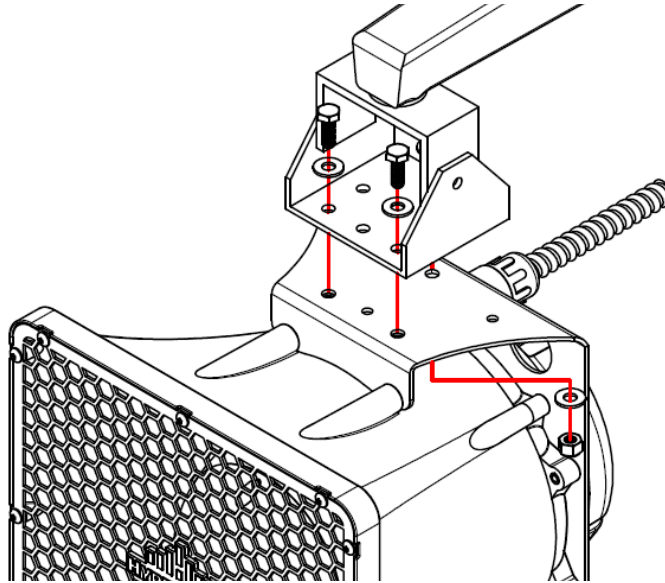

Figure 3: Attaching Wall Mounting Bracket
- 1) To mount a single Magnacast II, attach the mounting bracket to the wall bracket (optional accessory or customer supplied) with three ¼" screws/bolts (Figure 3).